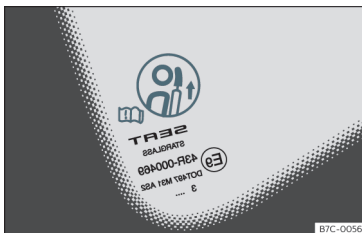

Fig. 74 Head restraint position warning label.
- Under no circumstances should the rear passengers travel while the head restraints are in the non-use position. See the warning label located on the rear side fixed window >>> Fig. 74.